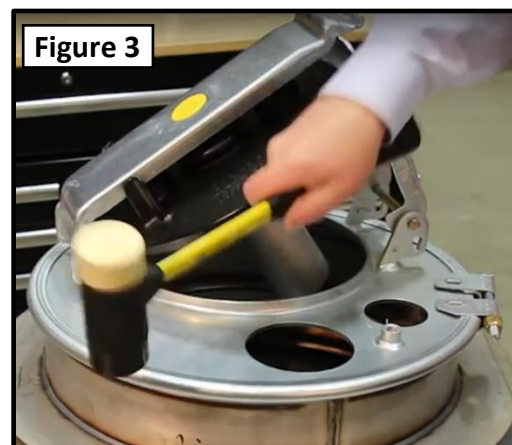

Figure 3
- 9) Use a non-sparking hammer to strike the outer circumference of the clamp ring (see figure 3) starting at one lug and making approximately six equally spaced blows around the clamp ring to seat the ring into position. Retighten the nut and repeat hammer blows as needed until the hammer blows do not significantly loosen the nut and bolt.